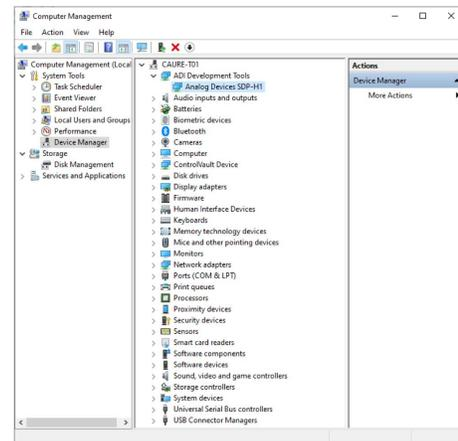

Figure 16. Checking That the Evaluation Board Is Connected to the PC Correctly
- The **Computer Management** window appears. Click **Device Manager** from the list of **System Tools** (see Figure 16).